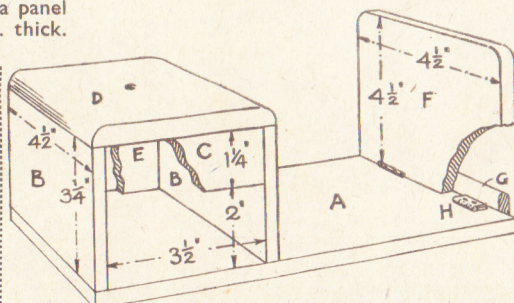

Fig. 2—Constructional details of cabinet and hinged book end
The end upright (F) of the bookrack is shown hinged to the base, so it can be folded down for packing if necessary. Cut the piece from $\frac{1}{2}$ in. wood and round off the two top corners, as seen in Fig. 2. A pair of stout brass hinges should be recessed into the lower edge of the upright and screwed there.
Then the upright is folded down flat against the base and the flap of the hinge then screwed to the base. A fillet (G) of hard wood for preference should finally be screwed to the base, as shown in Fig. 2, the upper edge being rounded and all sharp corners taken off.